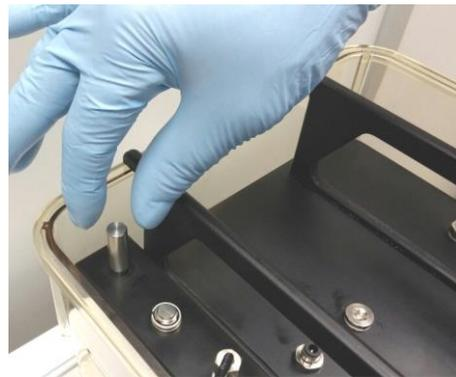

Figure 42: Checking the weight position
- To ensure that it touches and properly calibrates the transducer, visually inspect that the reference weight does not touch the edge of the screw hole (Figure 42).